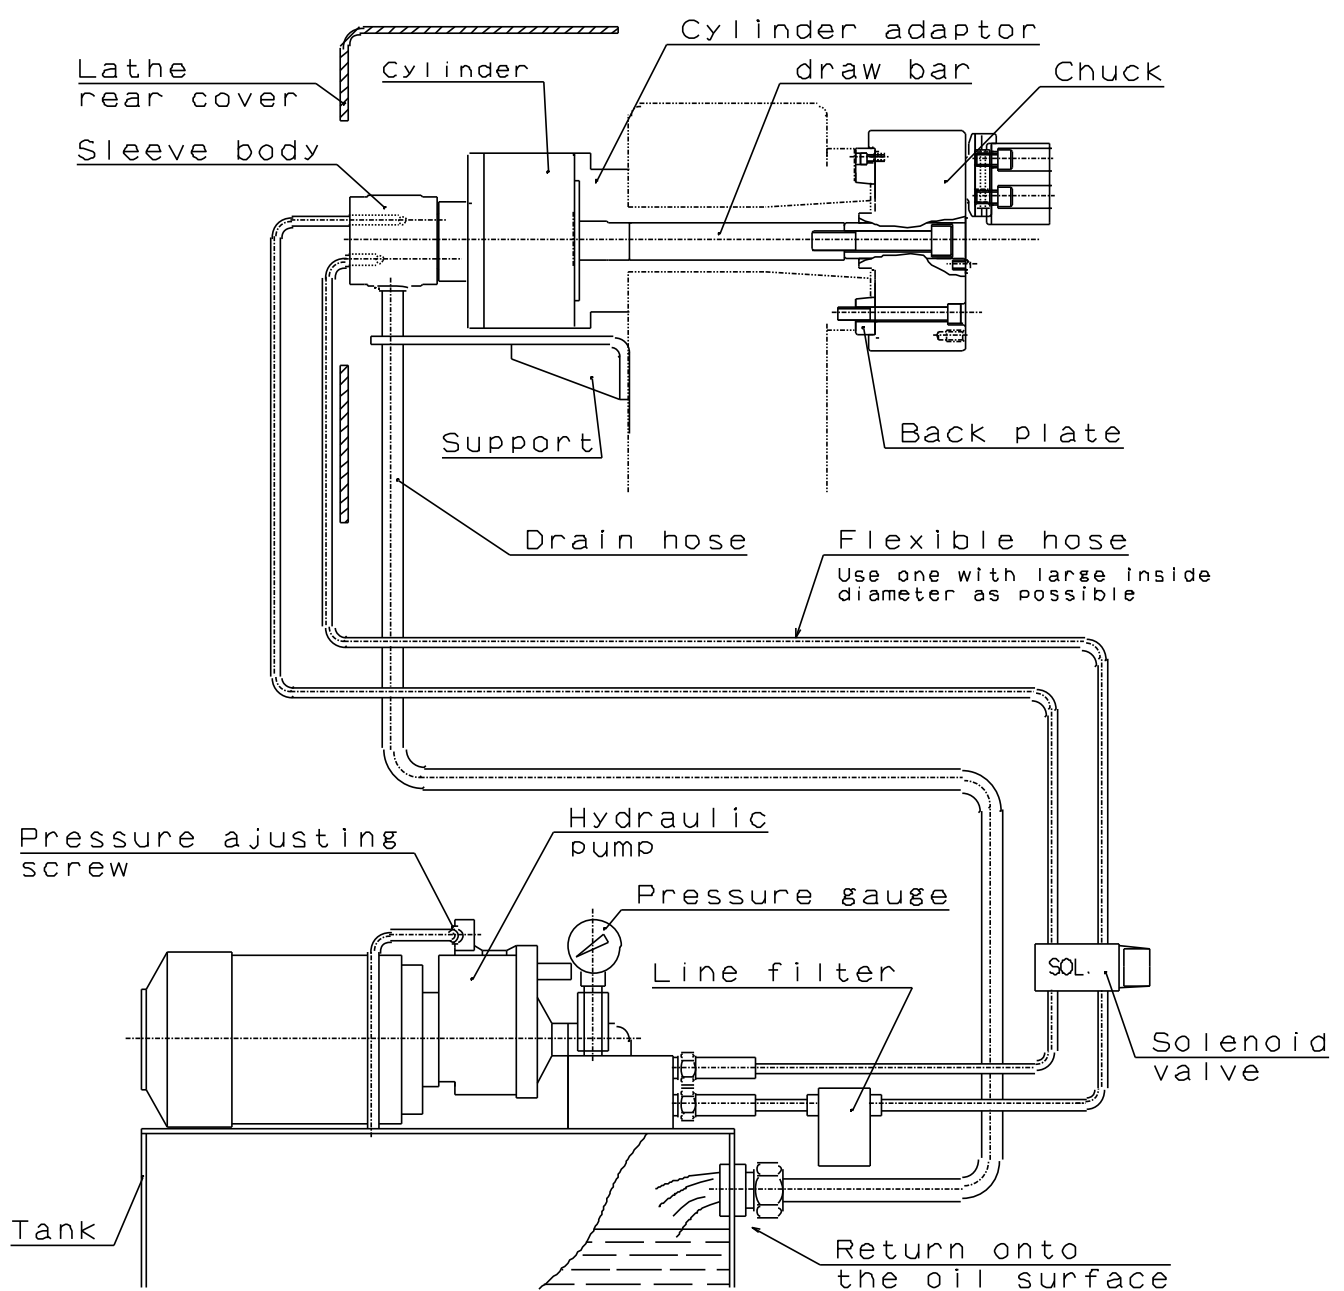

Fig.20
- The end of the hose is physically above the oil level. (Refer to Fig.20)